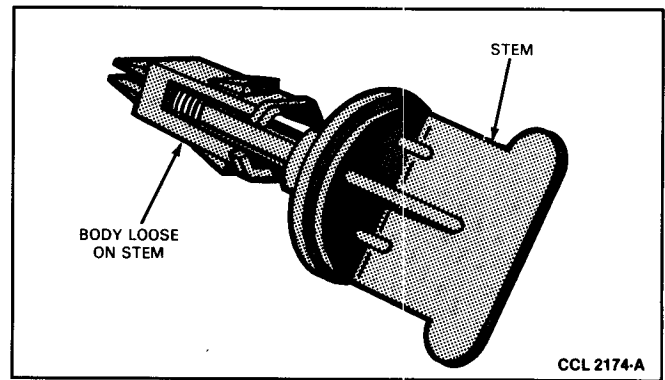

FIG. 8 Draincock Assembled for Installation
1. Check the draincock to be sure the body is installed loosely on the stem (Fig. 8). If the stem is screwed into the body, the draincock cannot be installed into the tank opening.